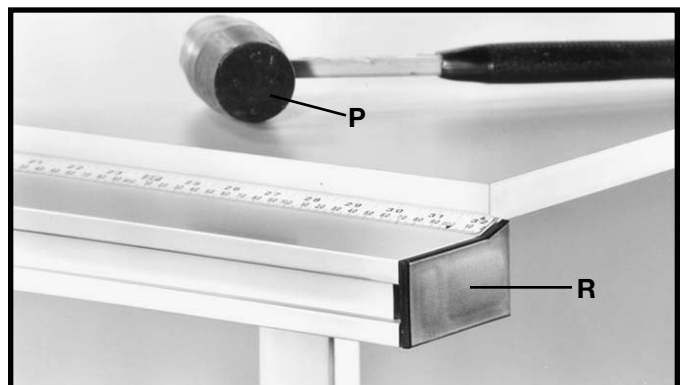

Fig. 57
7. Using a rubber mallet (P) Fig. 57, or a hammer and a block of wood, gently tap end cap (R) into both ends of the guide rail. **NOTE:** To avoid damage to the guide rail, **DO NOT** use a metal hammer directly against the guide rail.